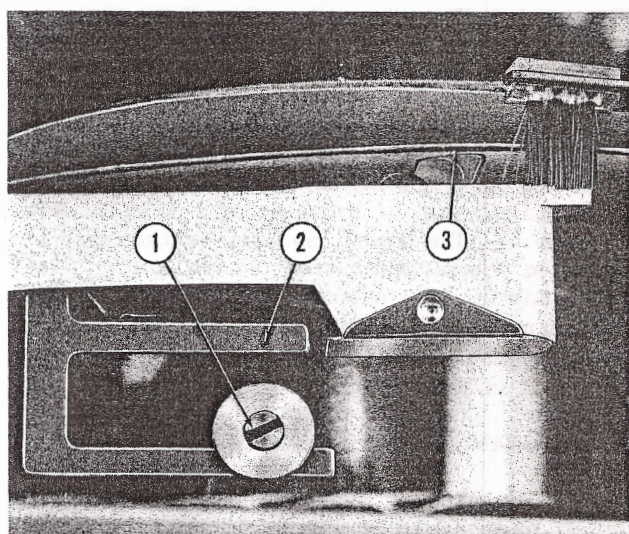

Fig. 77. TONE ARM FEED-IN ADJUSTMENT
(1) The tone arm feed in adjusting screw (Fig. 77, Item 1) is set at the factory using fixture X42226 (Item 3) and should need no adjustment. However, when a readjustment is required it may be accomplished by advancing the record changer in its cycle until a record is clamped on the turntable. Turn the service switch off before the needle contacts the record and adjust the feed in screw (Item 1) to position the needle in the feed-in groove of the record. The setting should be 2-5/8" to 2-11/16", measured from the outside circumference of the turntable pilot to the needle, to conform with R.I. A.A. standards.